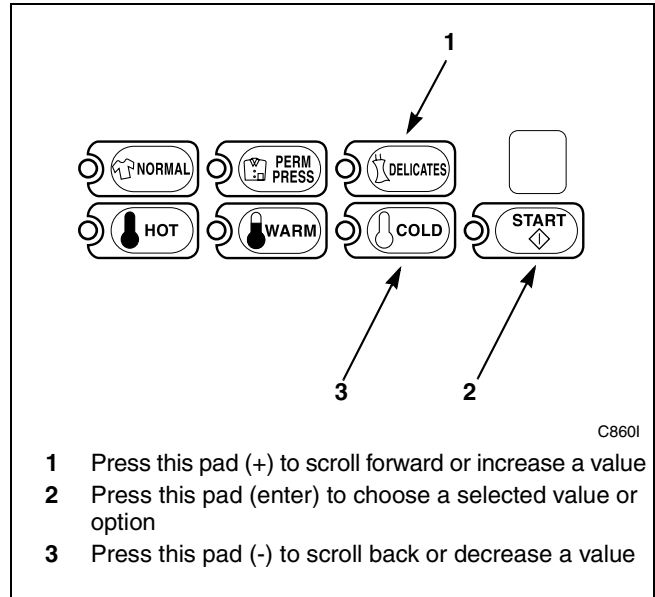

Figure 125
5. Press the DELICATES (+) or the COLD (-) keypad to increase or decrease the year until correct. Refer to *Figure 125*.